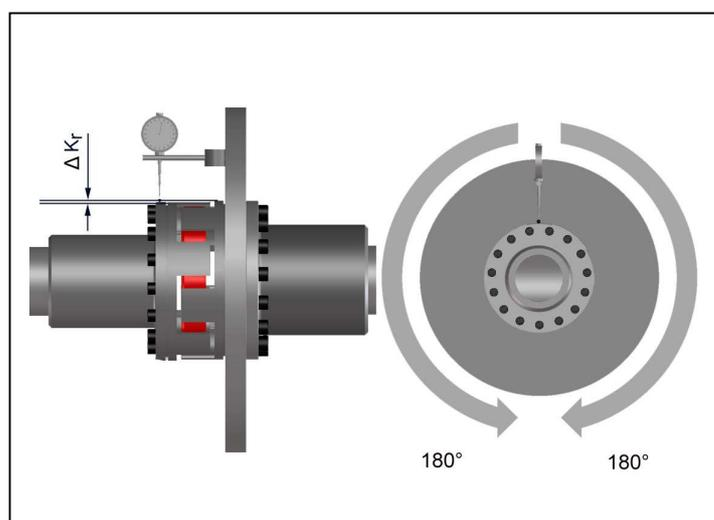

Fig. 10
- Measure one complete revolution (360°). Determine the largest deviation K_{r1} and the smallest deviation K_{r2} (Fig 10). Calculate the radial misalignment